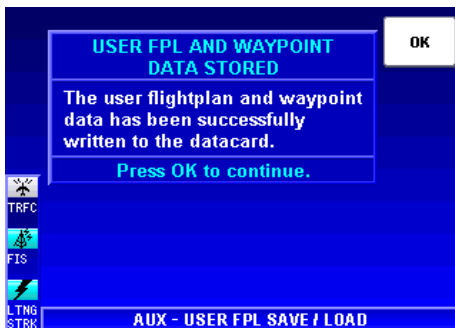

Figure 1-196
11. Figure 1-196 will be displayed showing that the data has been stored on the datacard.